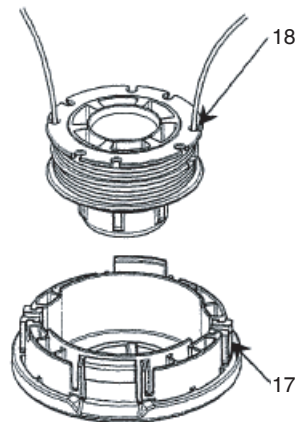

Fig. 24
(5) Insert both loose ends of the line through the cord guide (17) when placing the reel in the case. (Fig. 24)